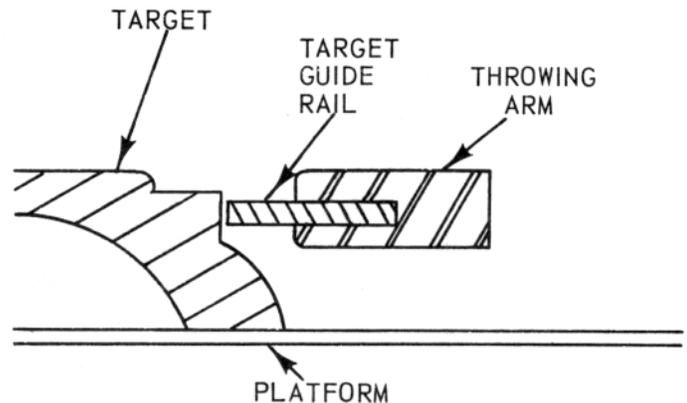

Figure 15 – Incorrect Guide Rail Height
2.1 Incorrect attitude is caused by the target shoulder being higher than the target guide rail (see Figure 15). Target shoulder height can vary among manufacturers and even among production facilities of the same manufacturer.